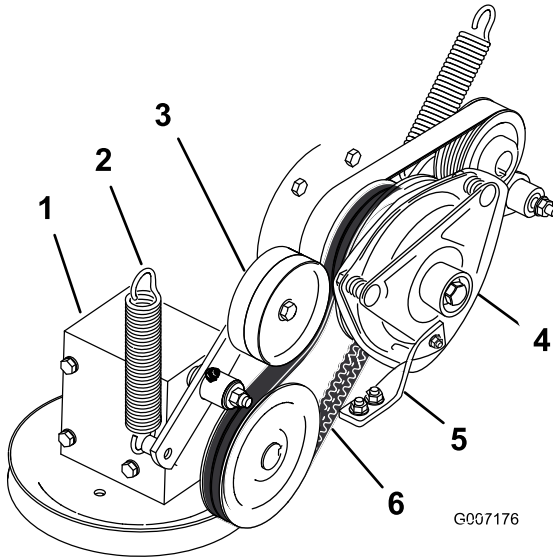

Figure 63
4. Remove the spring from the idler arm (Figure 63).
7. Install the PTO drive belt around the clutch pulley and the gearbox pulley (Figure 63).
9. Install the spring to the idler arm (Figure 63).